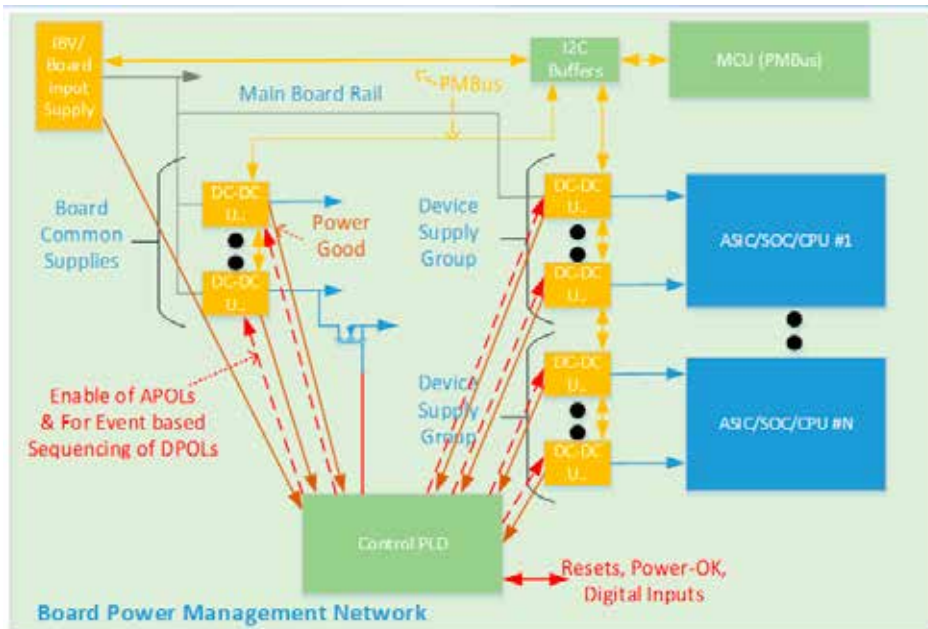

Fig.4: A Hardware Management system implemented using a Control PLD and an MCU
Figure 4. Power modules require just a few external housekeeping components and full details of how to calculate the values of these are provided in the datasheet
- (1) Know your requirement
- (2) Select the appropriate module
- (3) Calculate the values of the housekeeping components – see figure 4 below
- (4) Layout your PCB
- (5) Test and verify your prototype ... then move on to your next achievement!
Figure 4 illustrates an architecture which uses a microcontroller (MCU) to perform the sequencing of digitally-controlled point of
In order to overcome issues with inaccurate Power-Good signals, it's possible to monitor the board's supply voltages using a Control PLD that's equipped with an on-chip digital converter (ADC). In this architecture, the Control PLD implements the power management functions using an on-chip soft/hard processor core while housekeeping functions are implemented in hard logic (Fig.4).